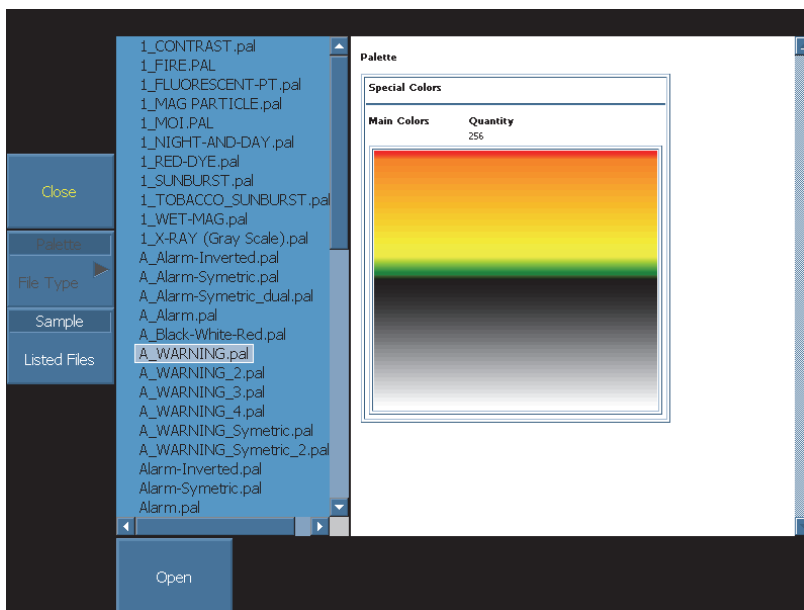

Figure 9-17 Loading the A_Warning.pal color palette
- Optimize the visualization of the defect in the C-scan view by changing the color palette. Select **Display > Color > Load Palette**, and then select the **A_Warning.pal** palette (see Figure 9-17 on page 147).